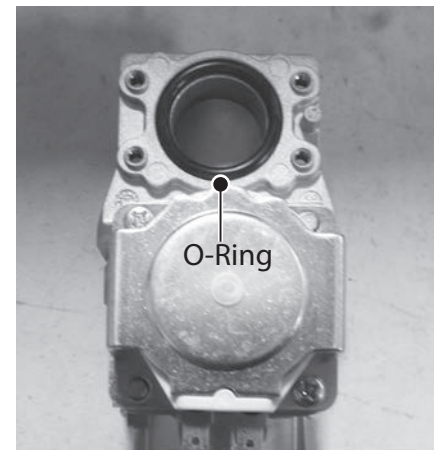

Figure 116 - O-ring replacement
- 16 Locate the gas valve O-ring (25.7 x 3.5) provided in the kit. Remove the old O-ring from gas valve and install new O-ring as shown in Figure 116.